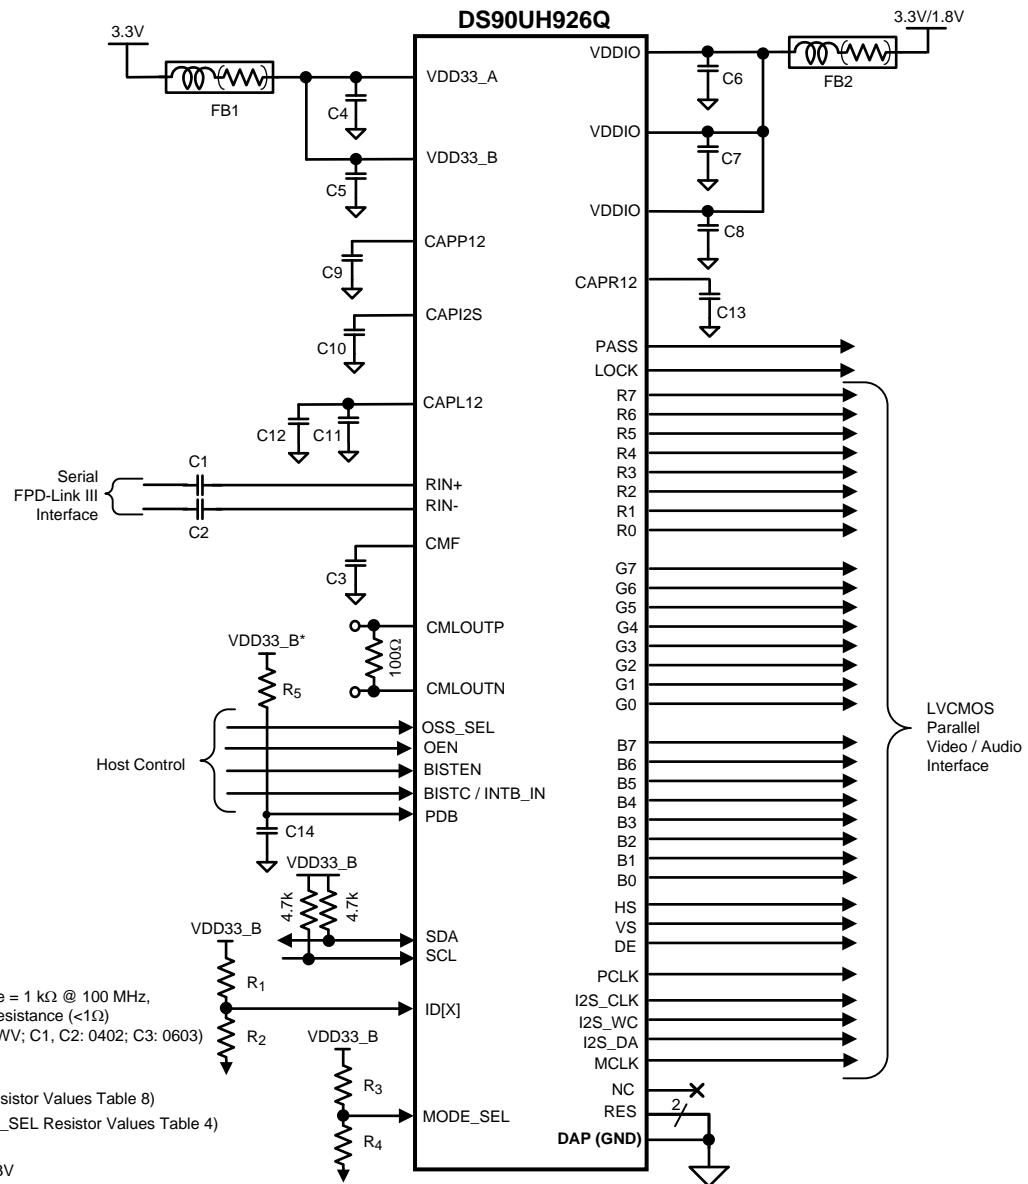

Figure 23. Typical Connection Diagram
Figure 23 shows a typical application of the DS90UH926Q deserializer for an 85 MHz 24-bit Color Display Application. inputs utilize 0.1 μ F coupling capacitors to the line and the deserializer provides internal termination. Bypass capacitors are placed near the power supply pins. At a minimum, seven 0.1 μ F capacitors and two 4.7 μ F capacitors should be used for local device bypassing. Ferrite beads are placed on the power lines for effective noise suppression. Since the device in the Pin/STRAP mode, two 10 k Ω pull-up resistors are used on the parallel output bus to select the desired device features.
- Updated “Figure 23. Typical Connection Diagram”